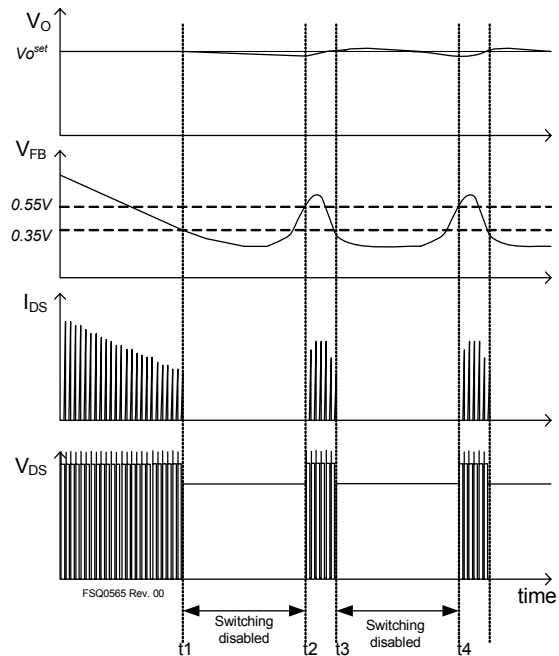

Figure 34. Waveforms of Burst Operation
6. Burst Operation: To minimize power dissipation in standby mode, the power switch enters burst-mode operation. As the load decreases, the feedback voltage decreases. As shown in Figure 34, the device automatically enters burst-mode when the feedback voltage drops below V_{BURL} (350mV). At this point, switching stops and the output voltages start to drop at a rate dependent on standby current load. This causes the feedback voltage to rise. Once it passes V_{BURH} (550mV), switching resumes. The feedback voltage then falls and the process repeats. Burst-mode operation alternately enables and disables switching of the power SenseFET, thereby reducing switching loss in standby mode.